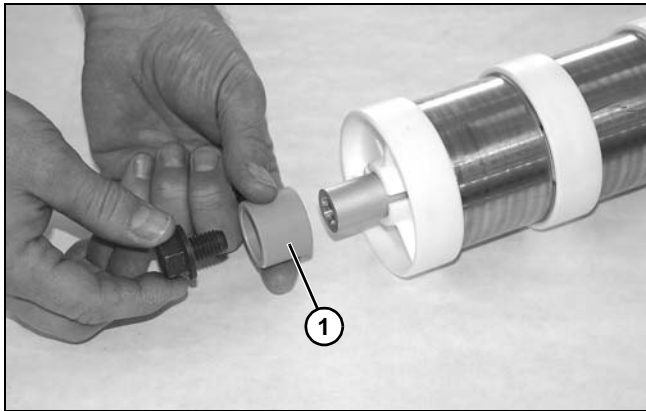

Figure 106
6. Remove tube spacer (**Figure 106, item 1**), as needed, from each side of assembly.